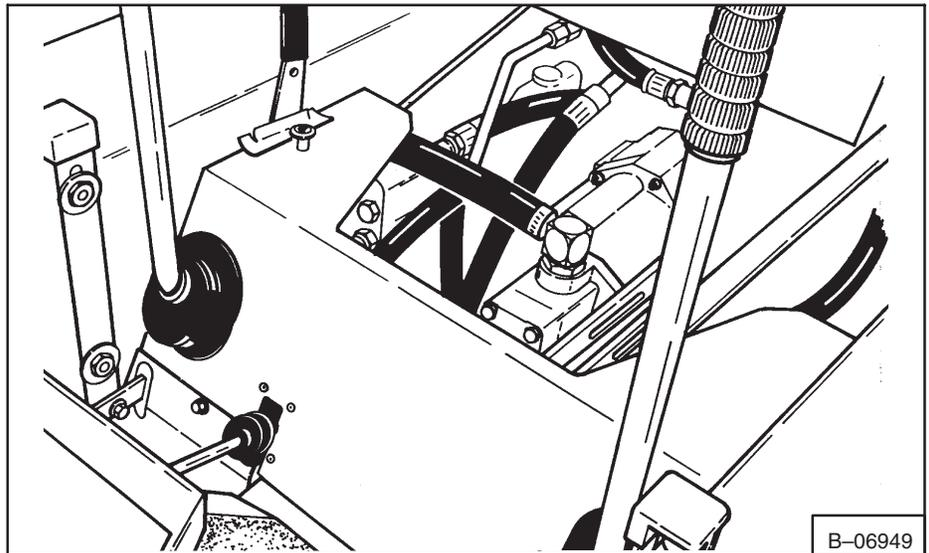

Fig. 3-87 Removing Panel
3. Remove the front panel (Fig. 3-87).